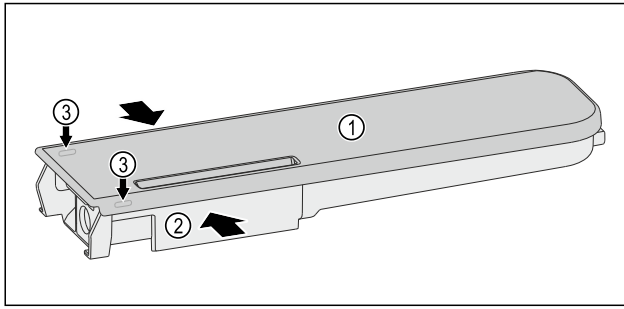

Fig. 189
- ▶ Push the water tanks Fig. 189 (2) together, leverage the cover Fig. 189 (1) carefully over the latching tabs Fig. 189 (3) and lift it up.
- ▶ Move the cover Fig. 189 (1) slightly forwards and back, and remove to the top.